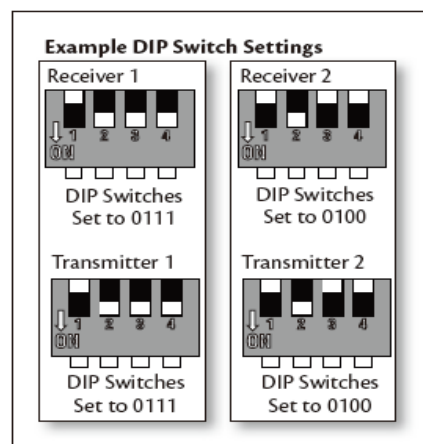

Fig. 16 Receiver DIP switch
- The remote (transmitter) and receiver must be configured so that communication between each other is paired up. This is achieved by setting the DIP switch on the receiver and remote on the same setting. (Fig. 16)